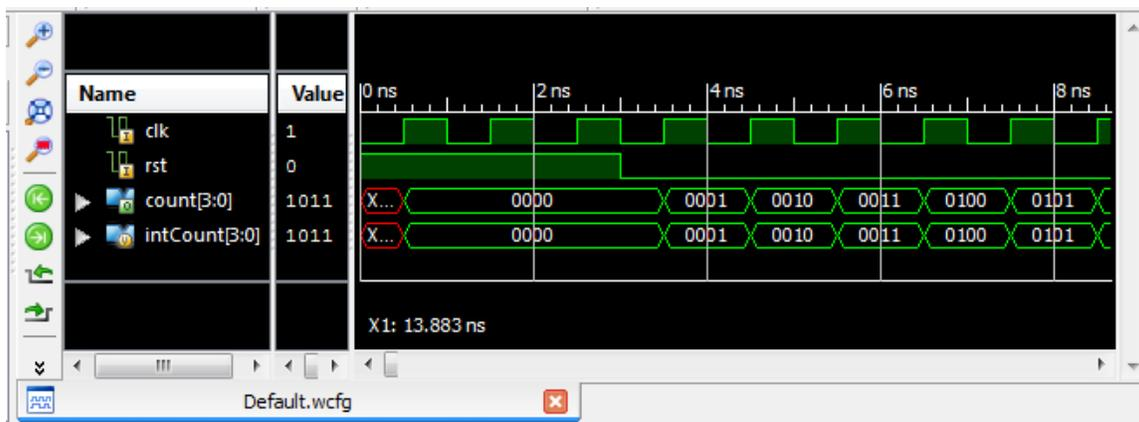

Figure 6
11. The simulator will show the behavior of the circuit according to the input signals, press **Zoom to Full View** in the toolbar to show the entire simulation period. You can Zoom in and Zoom out using the icons in the toolbar. The counter output should look like Figure 6.